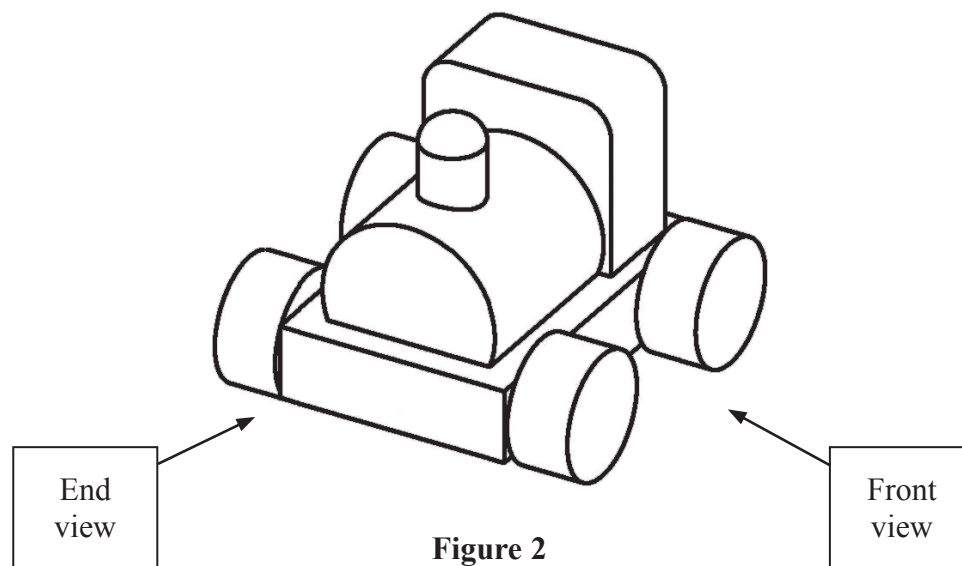

Figure 2
2. Figure 2 shows an isometric drawing of a children's wooden toy locomotive. The front and end views are labelled.